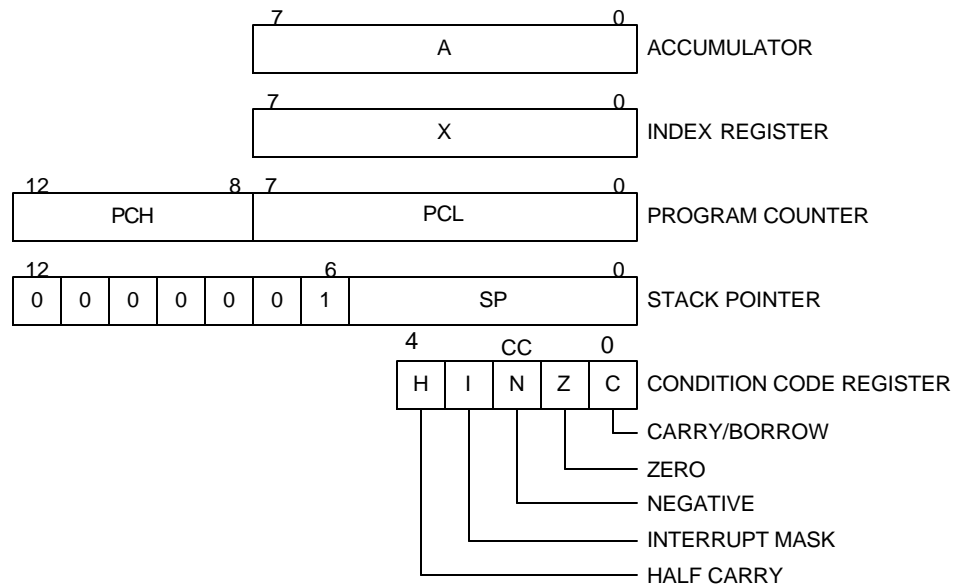
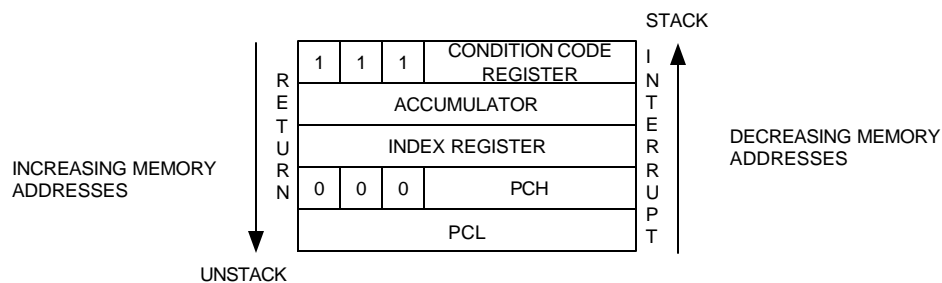
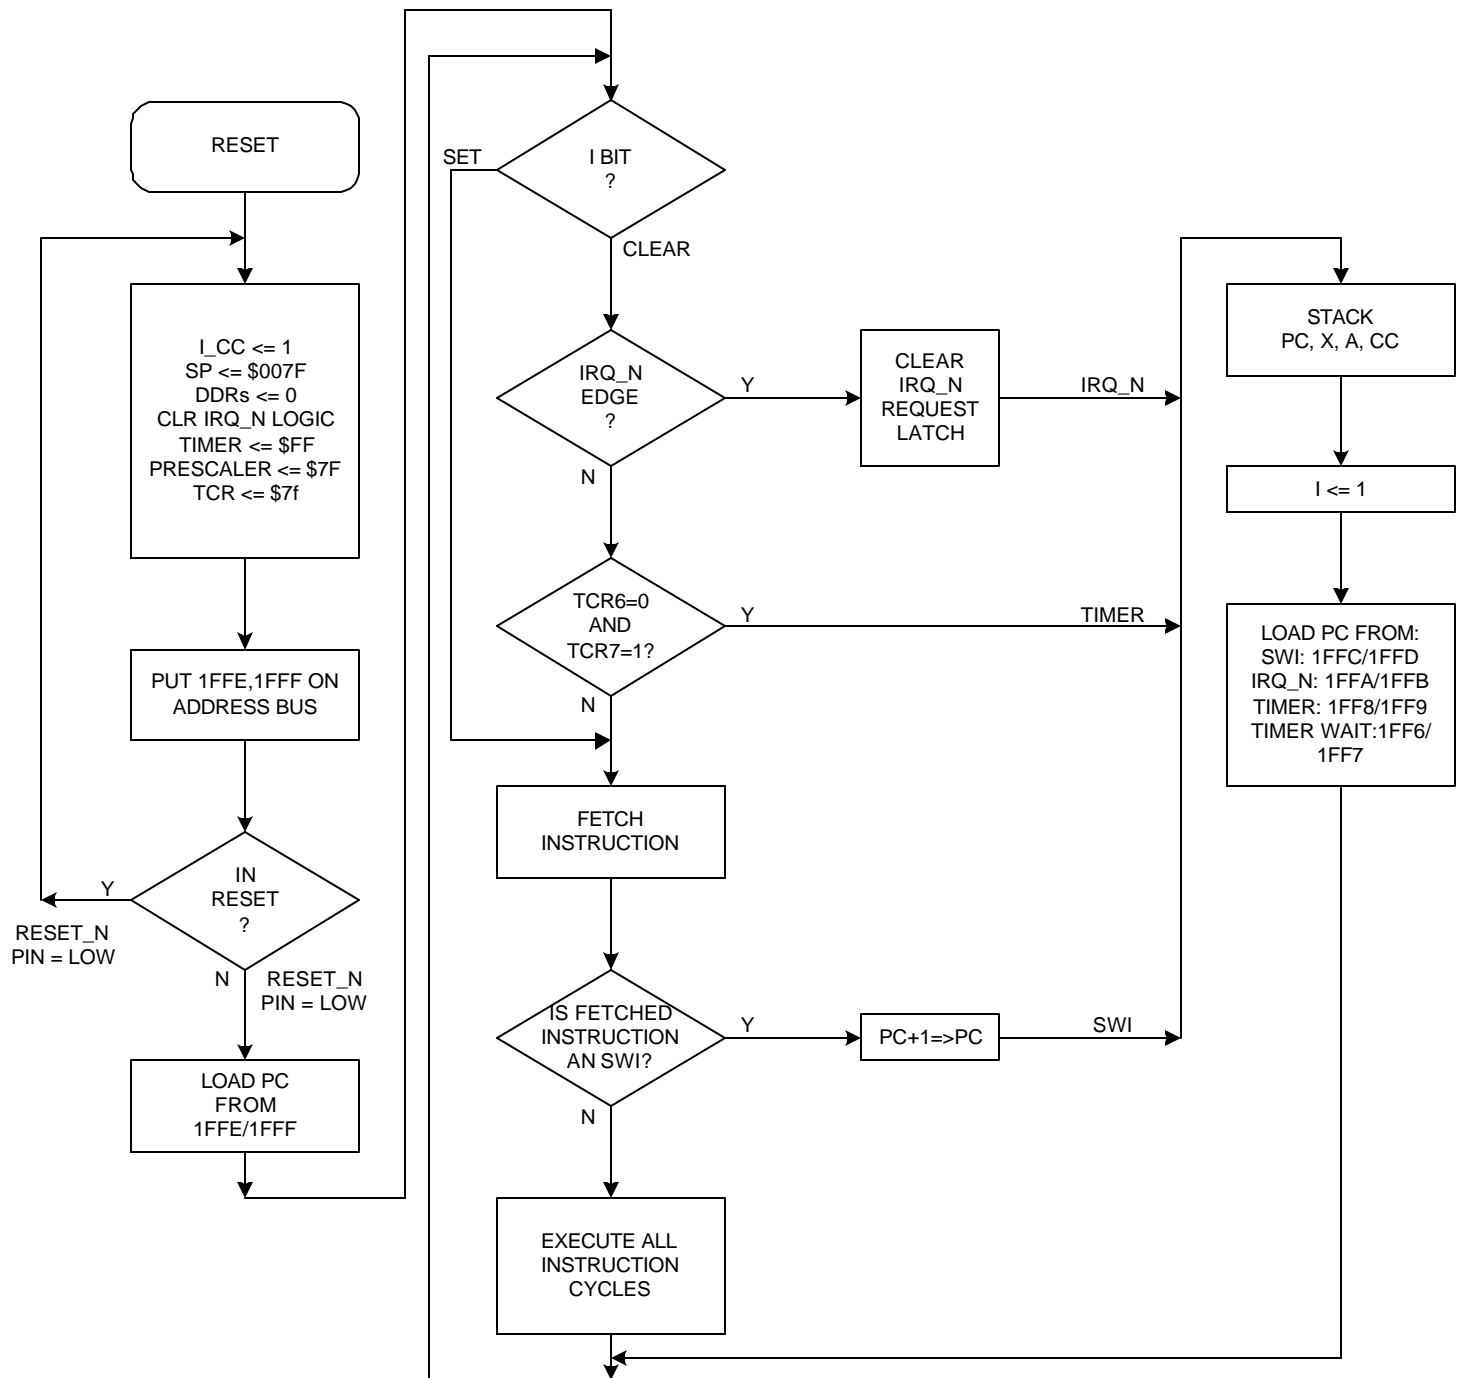

Figure 6. Programming Model
Figure 7. Interrupt Stacking Order
Figure 8. Reset and Interrupt Processing Flowchart
The following paragraphs describe the registers contained in the MPU. Figure 6 shows the programming model and Figure 7 shows the interrupt stacking order.
The MPU can be interrupted with the external interrupt pin (irq_n), the internal timer interrupt request, or the software interrupt instruction. When any of these interrupts occur, normal processing is suspended at the end of the current instruction execution. The processor registers are saved on the stack (stacking order shown in Figure 7) and the interrupt mask (I) is set to prevent additional interrupts. Normal processing resumes after the RTI instruction causes the register contents to be recovered from the stack. When the current instruction is completed, the processor checks all pending hardware interrupts and if unmasked (I bit clear) proceeds with interrupt processing. Otherwise, the next instruction is fetched and executed. Masked interrupts are latched for later interrupt service. External interrupts hold higher priority than timer interrupts. At the end of an instruction execution, if both an external interrupt and timer interrupt are pending, the external interrupt is serviced first. The SWI gets executed with the same priority as any other instruction if the hardware interrupts are masked (I bit set). Figure 8 shows the Reset and Interrupt processing flowchart.